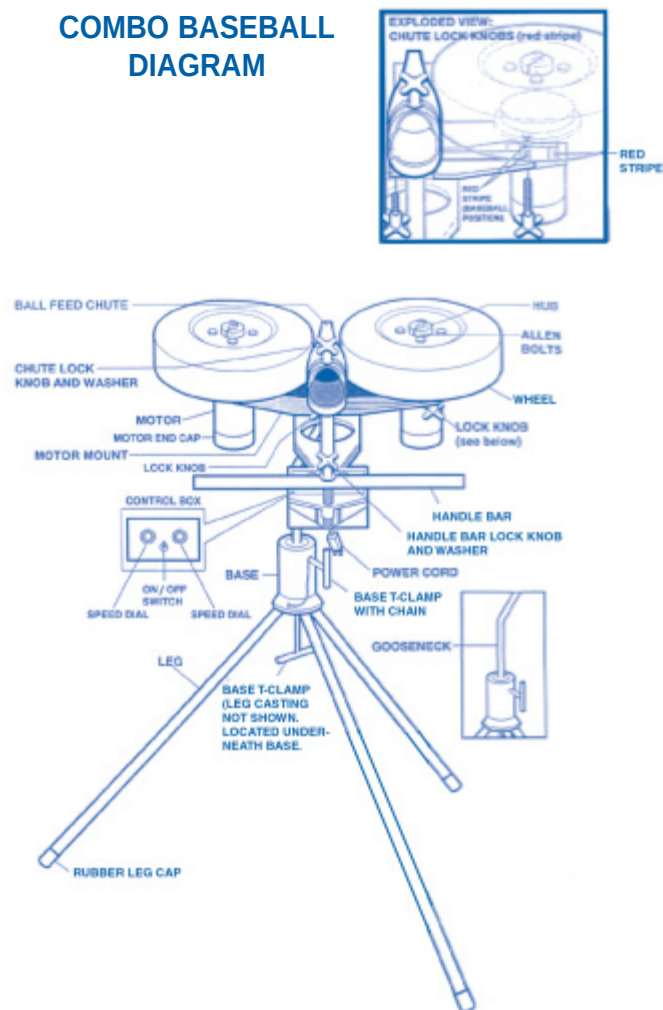

Figure 3
1. With the tire side down, place the triangular leg clamp in the leg clamp casting (see Figure 3.)
4. Loosen Base T-Clamp and aim machine at desired target. Re-tighten Base Clamp. To adjust trajectory, loosen Handle Bar Lock Knob (Figure 3) and adjust until desired trajectory is attained, then tighten securely. For fine adjustments, loosen lock knob slightly and adjust Handle Bar down, or sideways. (It is normal to throw five or six test balls before arriving at the setting and aim point you desire).
2. Loosen Handle Bar lock knob (Figure 3) and adjust until desired trajectory is attained, then tighten securely. For fine adjustments, loosen lock knob slightly and adjust Handle Bar down, or sideways. (It is normal to throw five or six test balls before arriving at the curve setting and aim point you desire.) Always have the batter and others stand clear while adjusting your JUGS pitching machine and throwing test balls.